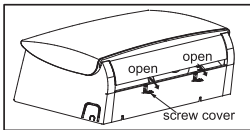
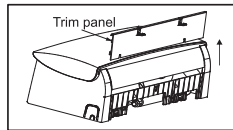

Fig. 8
Fig. 9
- 2) Open the screw cover as shown in Fig. 8 and remove the screw. Then remove the trim panel as shown in Fig. 9.